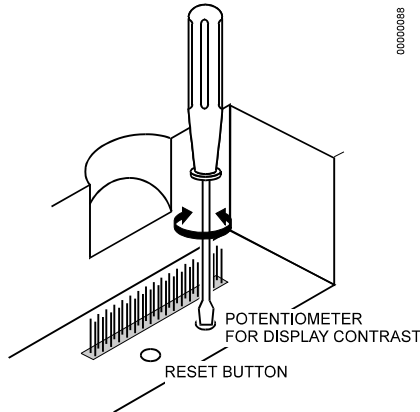

Fig. 34. Adjusting the display contrast
3. Adjust the display contrast with a slotted screwdriver or a cross-tip screwdriver (Fig. 34).